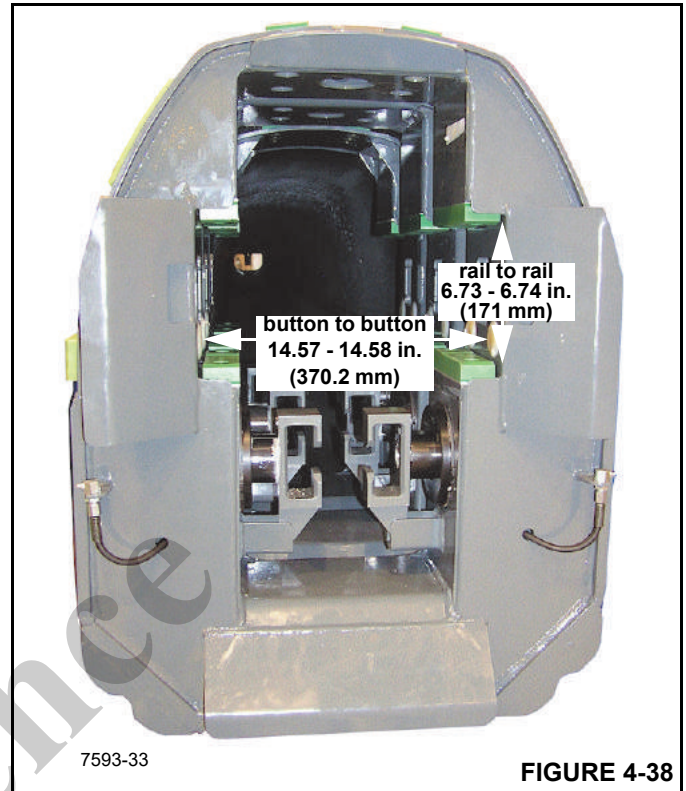

FIGURE 4-38
20. Verify button pads of section 5 and section 4 are 14.57 to 14.58 in (370 mm) apart (Figure 4-38).